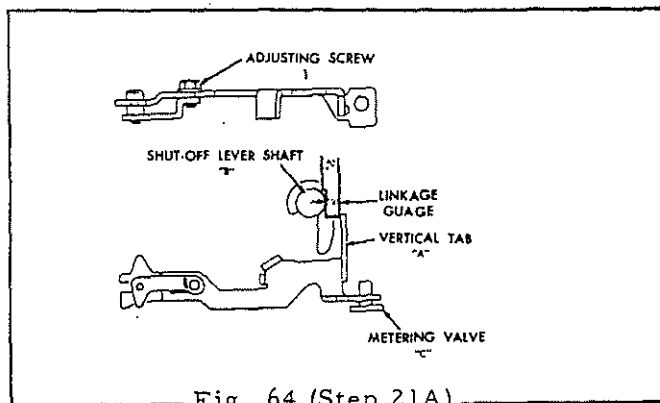

Fig. 64 (Step 21A)
STEP 21A. Linkage Adjustment - All pumps now in production employ a new style adjustable linkage. (See Fig. 64).